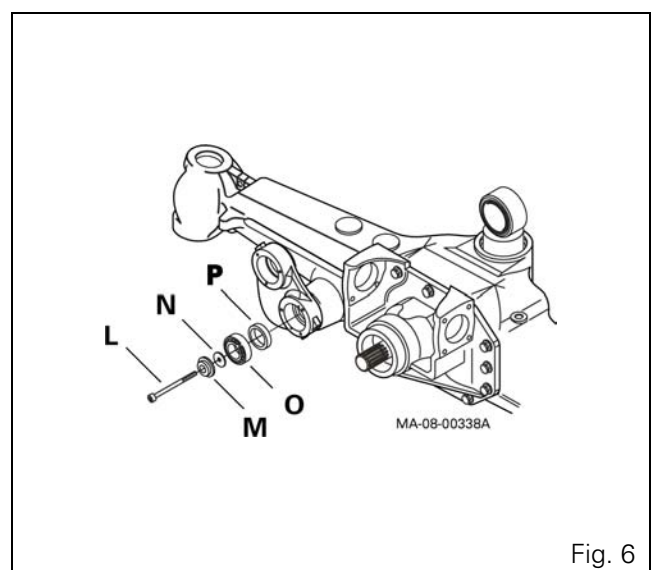

Fig. 6
6. Remove the attachment screws L of the arm pin bearings and recover the relevant thrust washer M and shims N, if used (Fig. 6).
Remove the bearings O and seals P (Fig. 6).